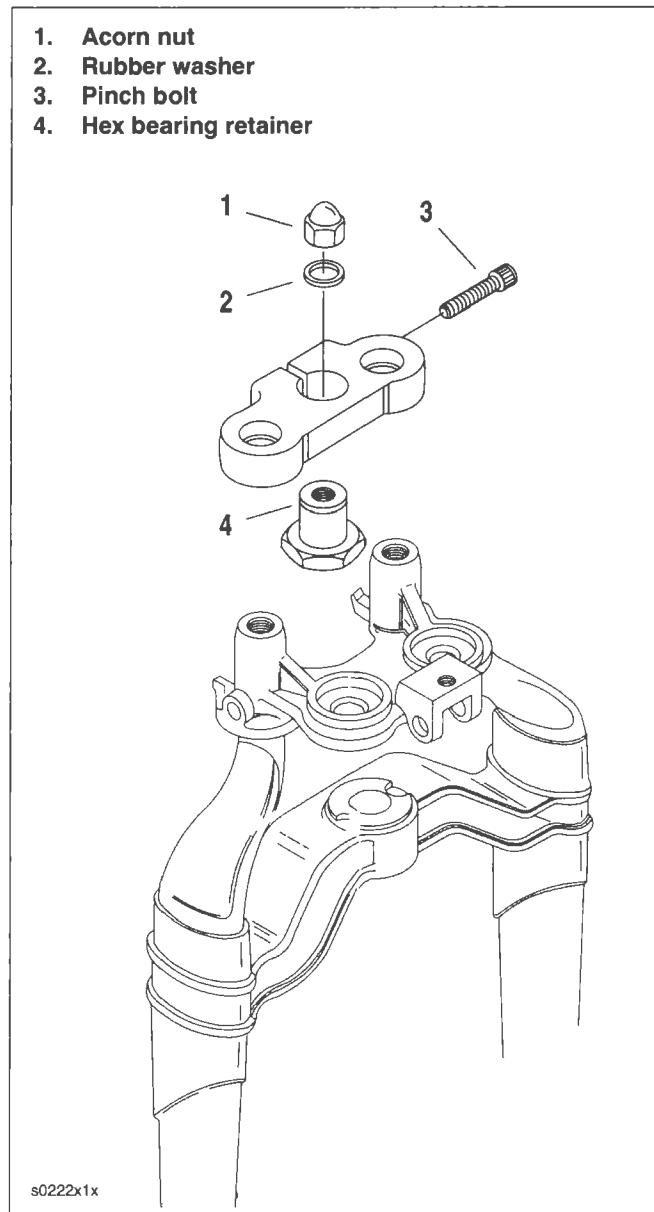

Figure 1-41. FLSTSC Fork Adjustment
4. See Figure 1-41. Remove acorn nut (1) and washer (2). Loosen, but do not remove, the upper triple clamp pinch bolt (3).